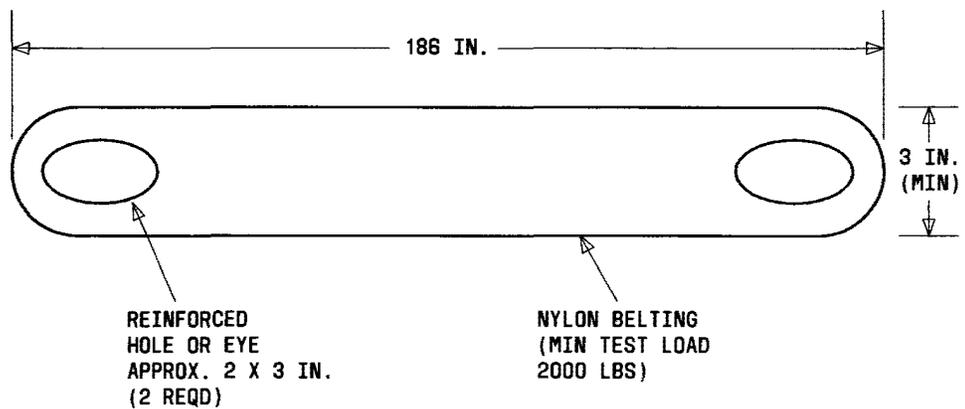
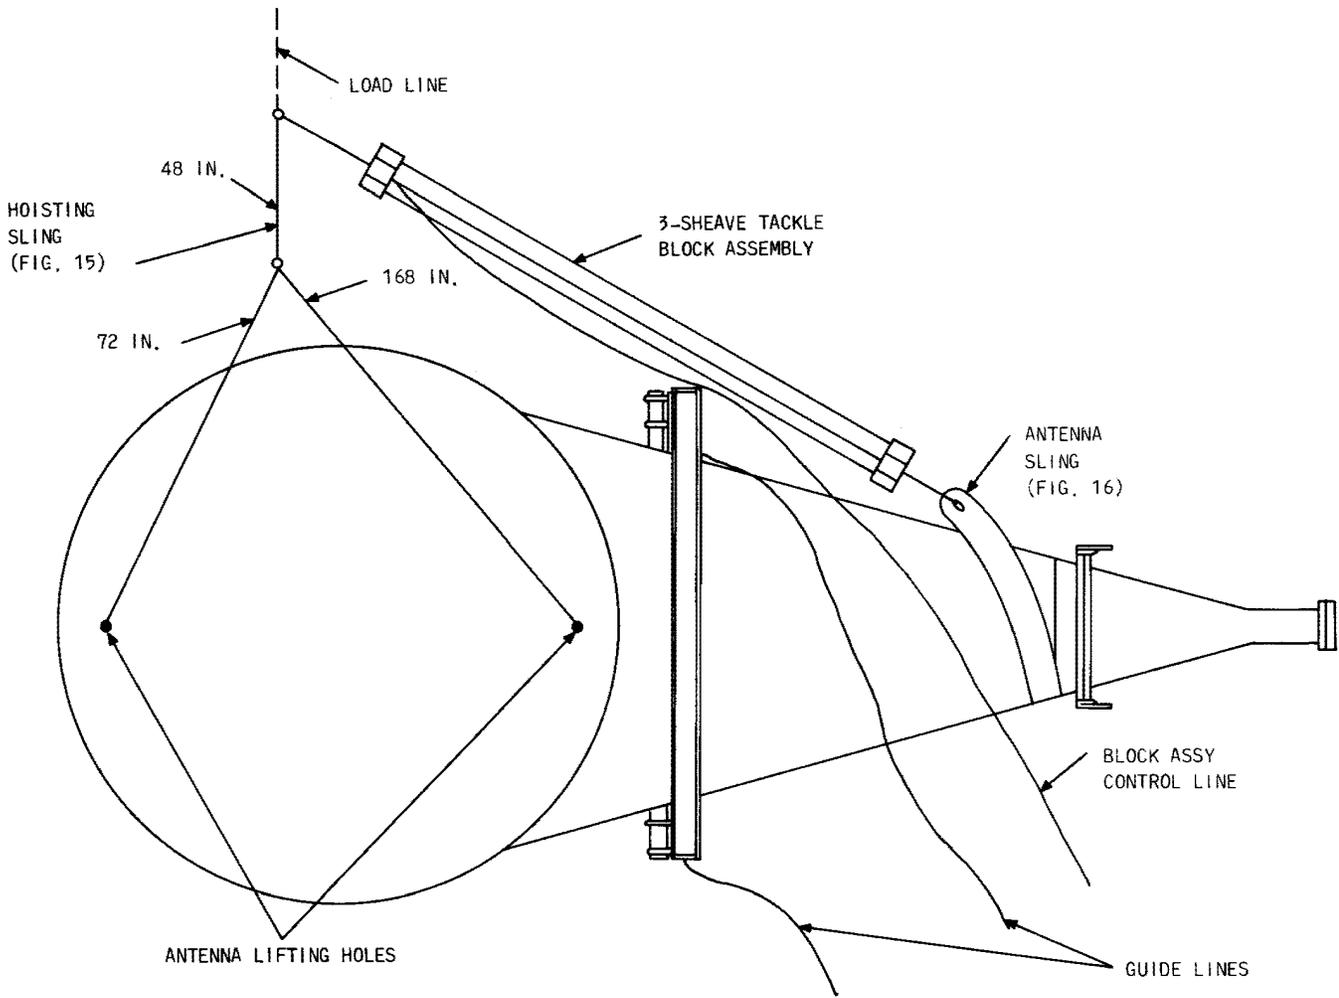

Fig. 16—Antenna Sling
Fig. 17—Hoisting the Antenna (Horizontal Position)
- (c) Antenna sling in accordance with Fig. 16, or equivalent
- (c) Wrap the antenna sling (Fig. 16) around the antenna, just above the antenna feedhorn flange as shown in Fig. 17. Locate the ends of the sling so that they may be attached to the bottom block of the 3-sheave tackle block assembly. Attach the antenna sling to the block assembly.
3.05 Refer to Fig. 17, and hoist the antenna as follows: